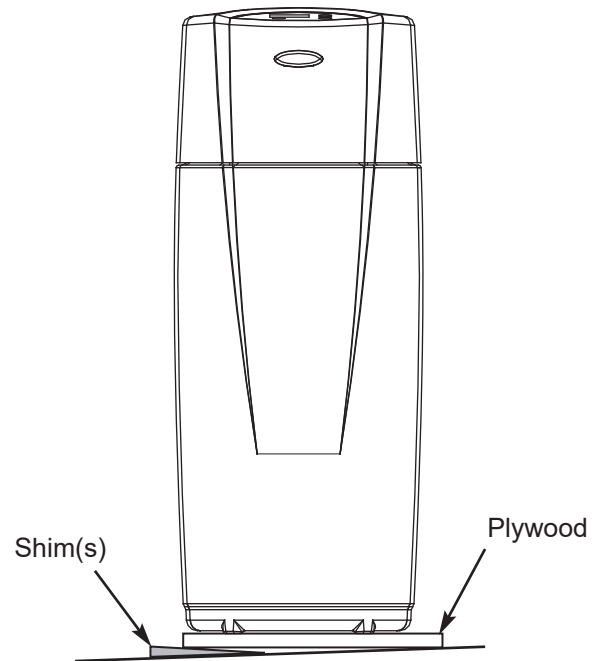

FIG. 8
1. Move the Central Water Filtration System into installation position. Set it on a level surface. If needed, place the unit on a section of plywood, a minimum of 5/8" thick. Then place shims under the plywood to level the Central Water Filtration System (see Figure 8).